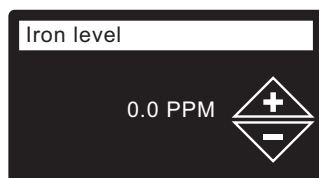

FIG. 23
23. **IRON LEVEL** Press the UP (▲) or DOWN (▼) buttons to set the value for iron in your water (See Figure 23).